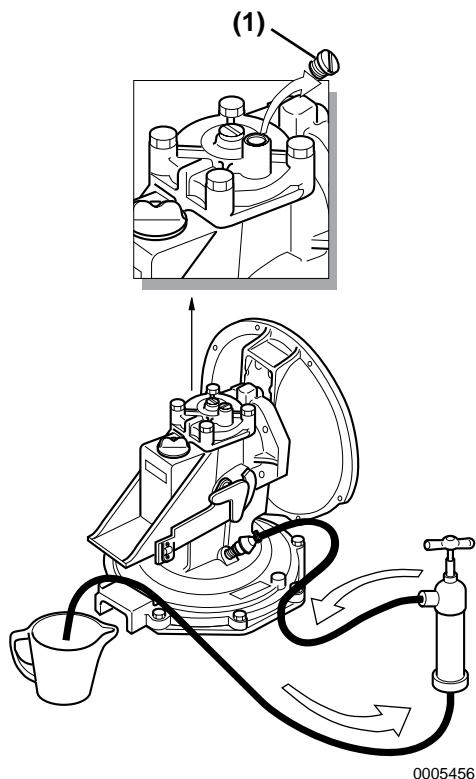

Figure 9
1. Connect the hoses as shown above (Figure 9).
2. Remove the plug from the upper case cover (Figure 9, (1)).